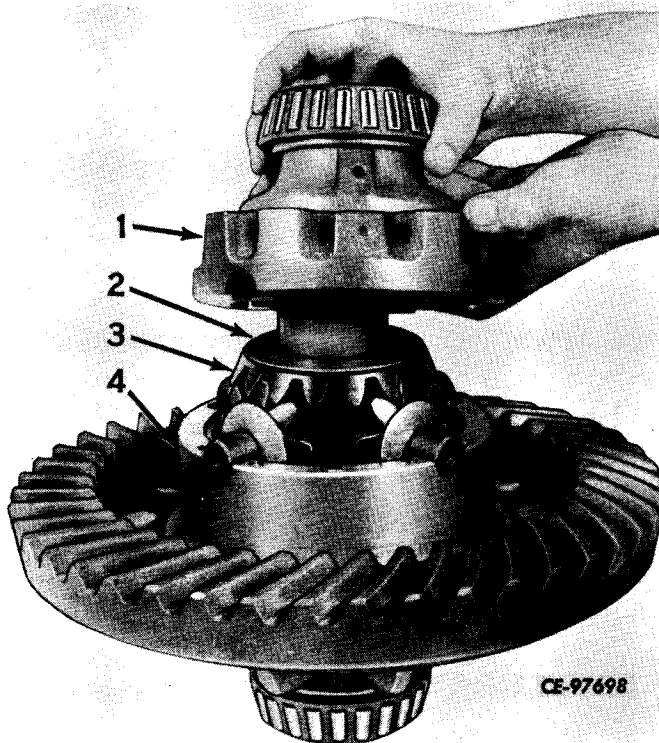

Figure 6-45
Install remaining side gear (3, Fig. 6-45) and thrust washer (2). Align halves, matching marks made during disassembly and secure with four equally spaced cap screws and hex nuts.